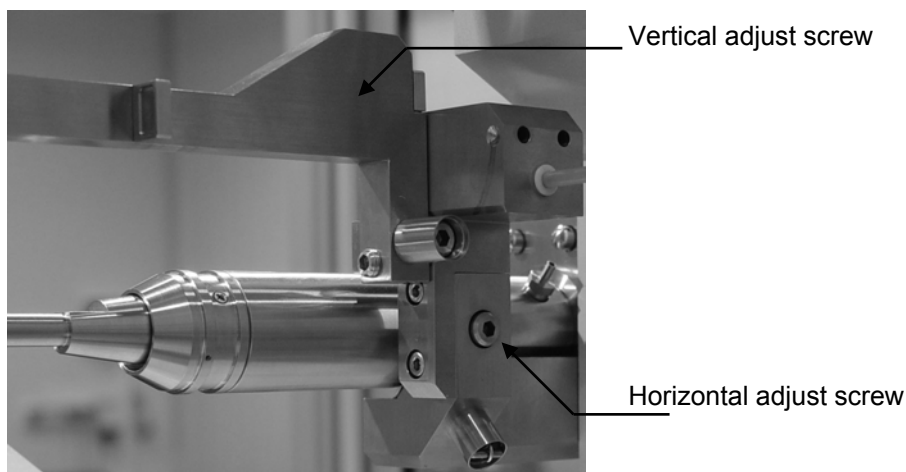

Figure 9.5.1 Beam stop adjustment screws
6. Adjust the beam stop position, using the horizontal and vertical adjustment screws (see Figure 9.5.1) and the special tool '1' (See figure 9.1.2) provided.